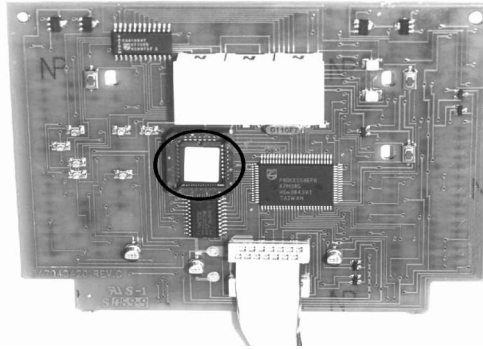

Figure 7.8 Showing location of U3
2. Remove ROM integrated circuit U3 (Figure 7.8) using appropriate tools.